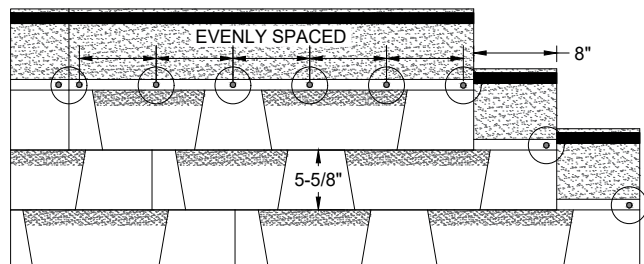

Figure 10 - Laminate, 6-Nail Fastening Pattern
Two methods for fastening can be used, but for each, the outer fasteners must be placed in the nailing area approximately 1" (25 mm) in from each edge. The first method has the remaining four (4) fasteners also placed in the nailing area and evenly spaced between. (See Figure 10)